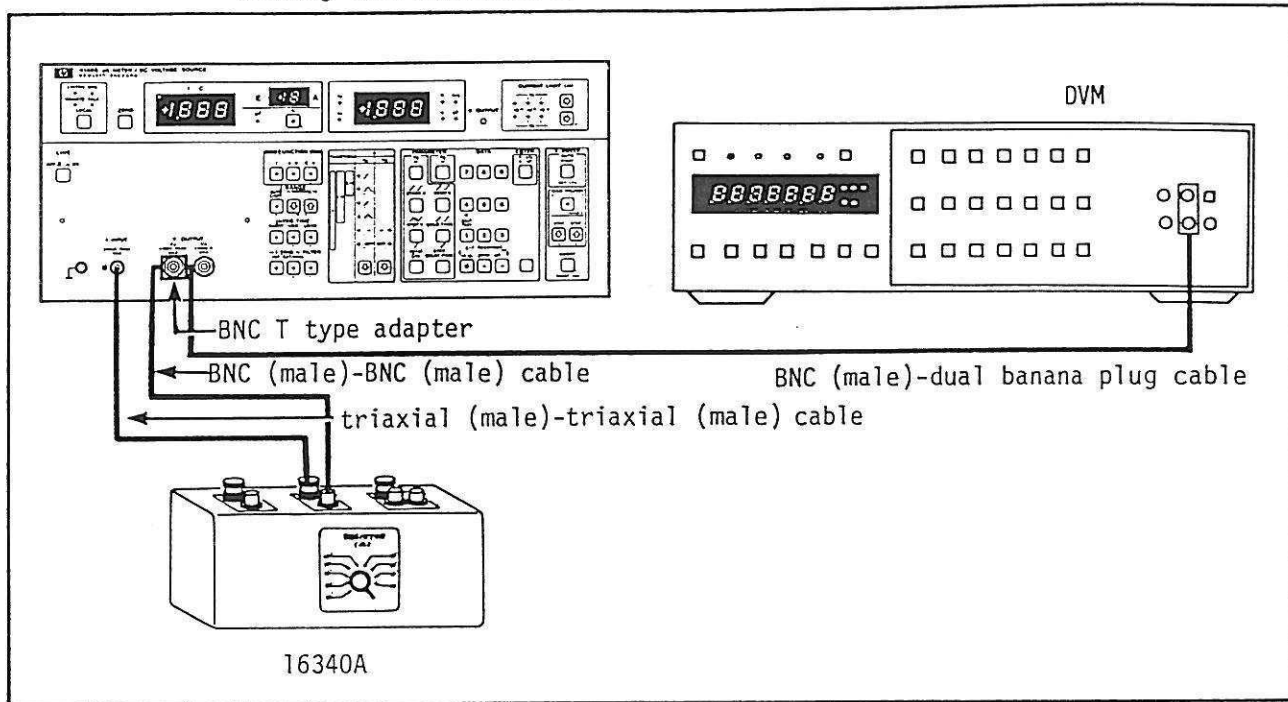

Figure 5-4. pA Meter Gain Adjustment Setup.
1. Connect 4140B, DVM and Decade Resistor as shown in Figure 5-4.